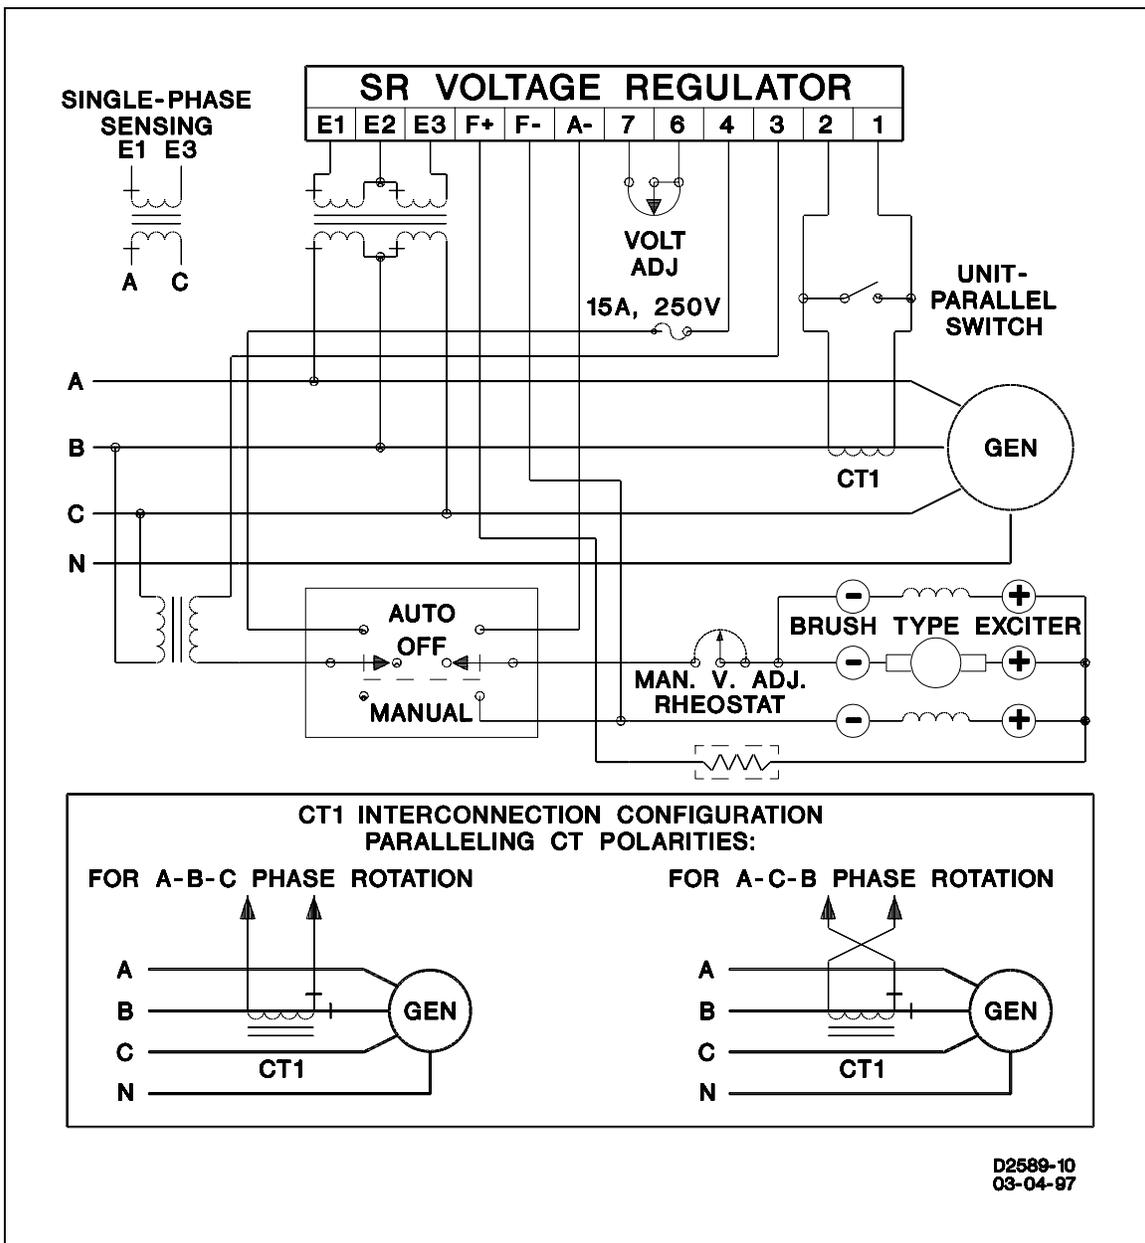

Figure 3-4. Brush Type Rotary Exciter Interconnection.
(1) Reactive differential compensation allows two or more paralleled generators to share inductive reactive loads with no decrease or droop in the generator system output voltage. This is accomplished by the action and circuitry described previously for reactive droop compensation, and the addition of cross connecting leads between the parallel CT secondaries as shown in Figure 3-4. By connecting the finish of one parallel CT to the start of another, a closed series loop is formed, which interconnects the CT's of all generators to be paralleled. The signals from the interconnected CT's cancel each other when the line currents are proportional and in phase. No system voltage decrease occurs. These regulators provide the necessary circuit isolation so that parallel reactive differential compensation can be used. The reactive differential circuit can only be used when all the generators connected in parallel have identical paralleling circuits included in the loop.
(2) Reactive differential compensation cannot be used when paralleled with the utility or other infinite (utility) bus. When reactive differential compensation is to be used on an isolated bus that may parallel with the utility bus, an auxiliary contact on the breaker used to connect the isolated bus to the utility bus must be used to open the reactive differential interconnecting loop any time the isolated system is connected to the utility. Contact the factory for additional information.
**a. General.** The regulator must be connected to the generator system as instructed in this section and as shown in the basic interconnection diagrams (Figures 3-4 and 3-5). Number 16 gauge wire (or larger) should be used for all connections to the regulator.
(1) When making connections on brush type rotary exciter applications, it is very important to observe the polarities of the exciter field, exciter output and the generator field as shown in Figure 3-4. If these polarities are not known, the system should be operated on manual voltage control and the polarities accurately determined, before connecting the voltage regulator into the system. The voltage regulator could be damaged if interconnection is attempted before this data is known.
(2) When manual voltage control is desired on brush type exciter applications, a **MANUAL-OFF-AUTO** switch and a field rheostat are used. (See Figure 3-4.) When this feature is not desired, the output of the exciter can be connected directly to the regulator (terminal A-), to allow self-excitation during short-circuit or overloads.
(3) When large motor starting or short circuit sustaining capability is not required it is not necessary to use A- terminal.
a. In addition to the regulator provisions, a 25 VA current transformer (CT) is required (See Figure 3-4 and 3-5). This CT is connected in a generator line and should deliver from 3 to 5 A secondary current at rated load.
c. Figures 3-4 and 3-5 show the correct CT polarity for A-B-C phase rotation sequence. If the phase rotation sequence is A-C-B, the CT's secondary leads must be interchanged.
a. For reactive droop compensation, connect the CT to its respective regulator as shown on Figures 3-4 and 3-5.
Before initial operation is attempted, verify that the regulator is connected for the proper application as shown in either Figure 3-4 or 3-5.
- (1) It is recommended, before proceeding, that the operation of the components in (and external to) the regulator which facilitates parallel operation be reviewed (paragraph 2-3).
- (2) It is essential that the paralleling signal at terminals 1 and 2 of the regulator, have the proper phase relationship with that of the sensing voltages at terminals E1, (E2 must be connected on 3 phase models), and E3. Verify the connections to these terminals are made exactly as shown in Figures 3-4 and 3-5. If reactive differential (cross-current) compensation is desired, the paralleling CT's must be connected as described in paragraph 2-4b. A CT must be selected which will furnish 3 to 5 amperes at rated generator load current.
- (3) Prior to operation, the slide adjustment of resistor R25 (on all regulators) should be set to identical positions, near the end of R25 (farthest from the terminal strip). This adjustment will provide maximum reactive droop compensation (droop) signal.